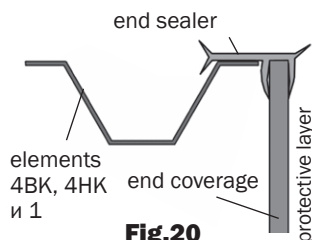

Fig.20
4. Even coverage pieces by arcs **4HK, 4BK** and stand **1** using a knife and mount sealing profile in accordance with **Fig.20**.